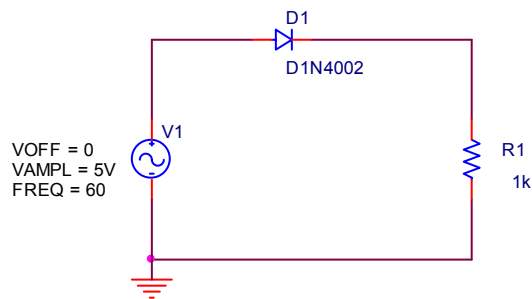

Figure 4-2: A half-wave rectifier
3. Figure 4-2 shows a half-wave rectifier. Build a half-wave rectifier in PSpice using the D1N4002 diode.